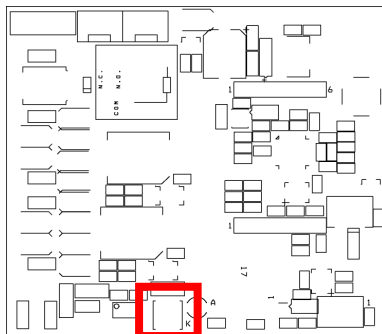

Figure 1. Coding pushbutton
3. Locate and press the coding pushbutton on the receiver board (blue button – fig. 1);